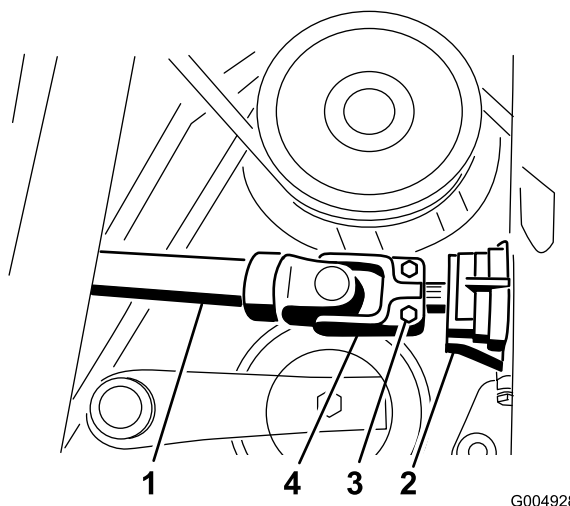

Figure 89
34. Slide the drive shaft onto the gearbox shaft (Figure 89). Install the roll pin and torque the bolts to 175-225 inch pounds.